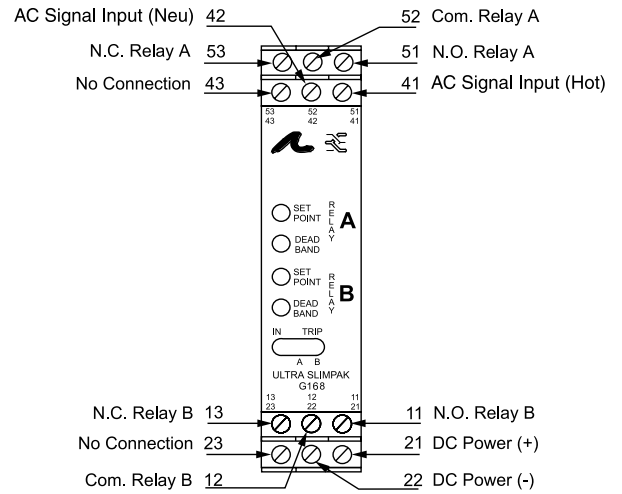

Figure 6: G168 Wiring Diagram
1. After configuring the dip switches, connect the input to a calibrated AC source and apply power. Refer to the terminal wiring (Figure 6).